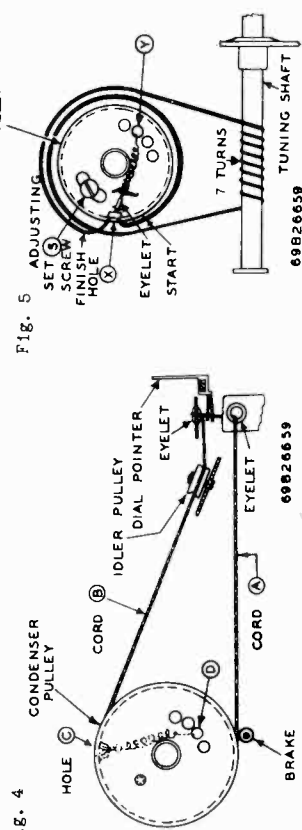

Fig. 4
Thread end of cord through hole (C) and clip to control head. (See Fig. 4).